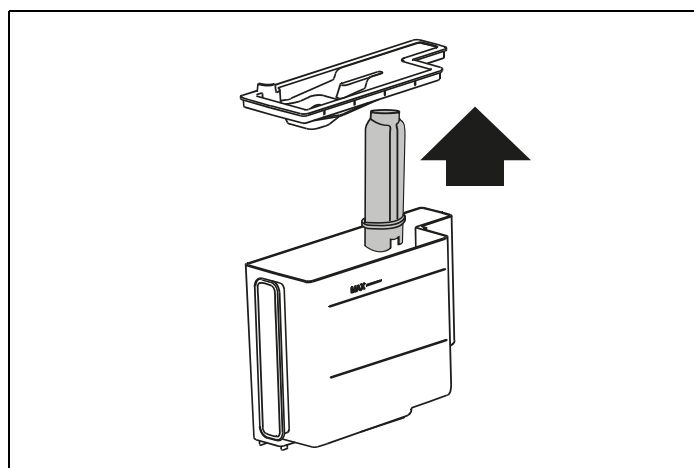

Fig. 55
- **Remove water filter** (Fig. 55):extract the water tank **(A12)**, remove the water softener filter **(C4)** (if present) and empty the water tank. Press NEXT;